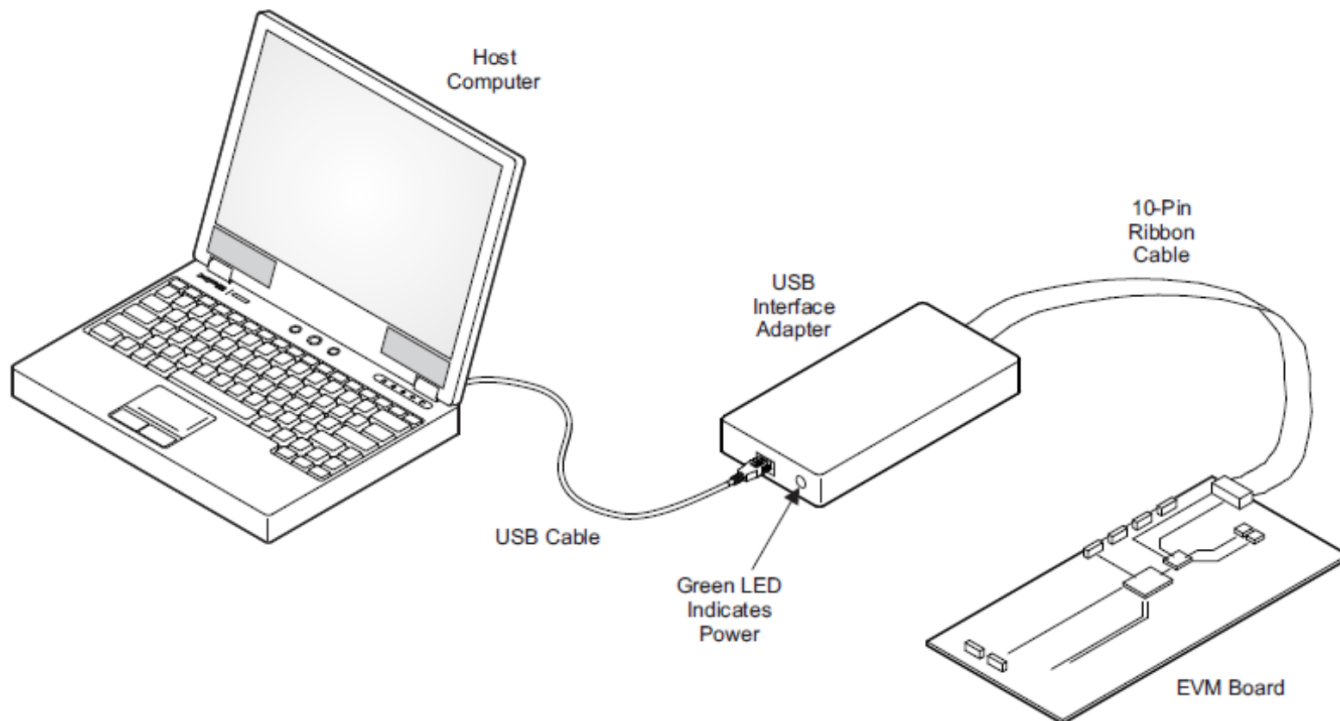

Figure 8. USB Interface Adapter Quick Connection Diagram
- Step 1. Connect one end of the USB-TO-GPIO box to the PC using the USB cable and the other end to J5 of the TPS65263 using the supplied 10-pin ribbon cable per Figure 8. The connectors on the ribbon cable are keyed to prevent incorrect installation.